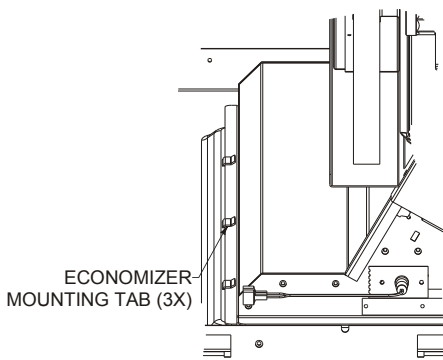

Figure 6
**Note: Be sure the back of flange of Economizer goes under mounting tabs as shown in Figure 6.**